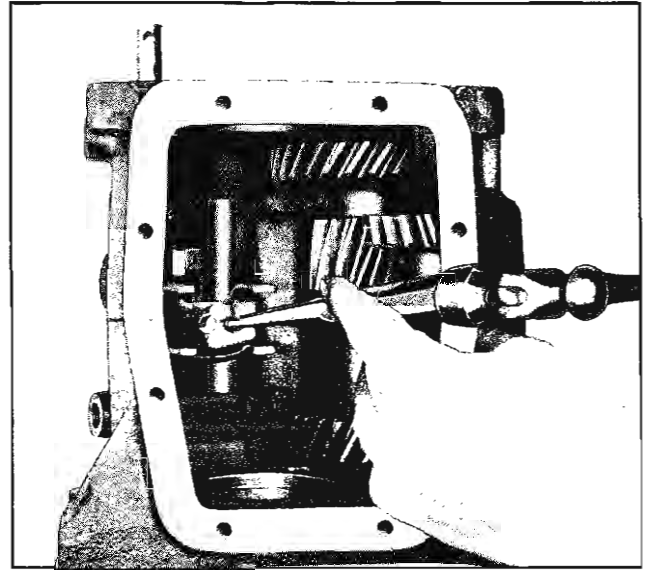

Fig. 7-35 Installing Roll Pin
11. Start roll pin into first and reverse fork. Start first and reverse shift fork shaft (shorter than second and third fork shaft) through lower hole at front of case with three detents facing detent ball and slip fork on shaft. Depressing detent ball, press shaft over ball to center detent position. Secure fork to shaft with roll pin (Fig. 7-35).